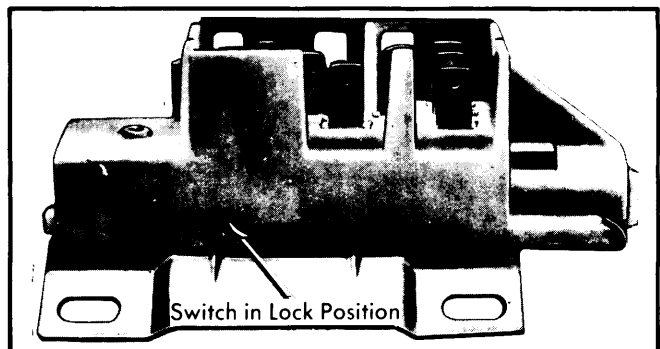

Fig. 7 Ignition Switch Assembly with Switch in Lock Position
3) On tilt column models, disconnect connector plug from wiring connector by using a wire terminal removal tool. See Fig. 7. Record color code and location of each wire as it is removed. Guide switch assembly out of column through shift socket hole. On "E" models with automatic transmission, disconnect lamp wire from turn signal switch harness before removing switch. To install, reverse removal procedure.